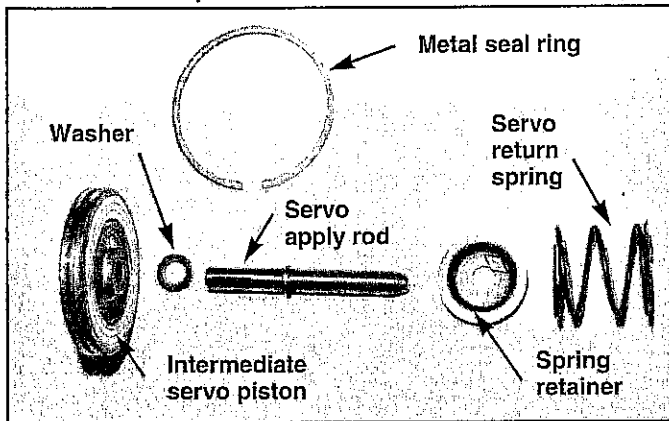

FIGURE 53
STEP 27. Position transmission on bench with valve body surface up. Install new metal seal ring on the intermediate servo piston if it originally had a metal ring. (See Fig. 53) **Do not remove Teflon seal ring.** Lubricate seal ring with automatic transmission fluid and install servo assembly into case. (See Fig. 4)